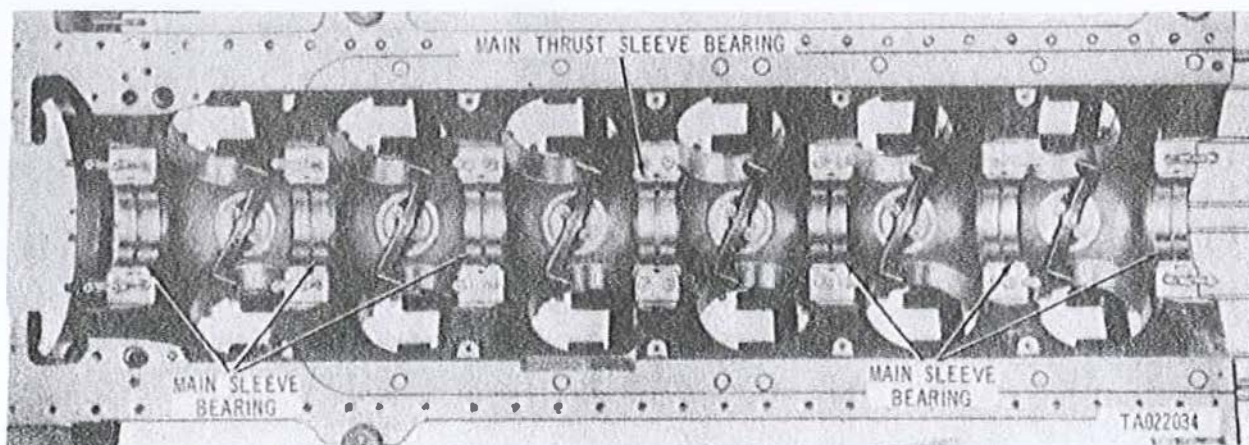

Figure 3-135. Removing or installing upper main sleeve bearing halves.
j. Remove six upper main sleeve bearing halves (fig. 3-135) from bearing bores in crankcase assembly. Mark respective locations of bearings on the back of bearing half using a grease pencil; e.g., "1-case", "2-case", etc. Remove upper main thrust sleeve bearing half and mark as "4-case" for identification.